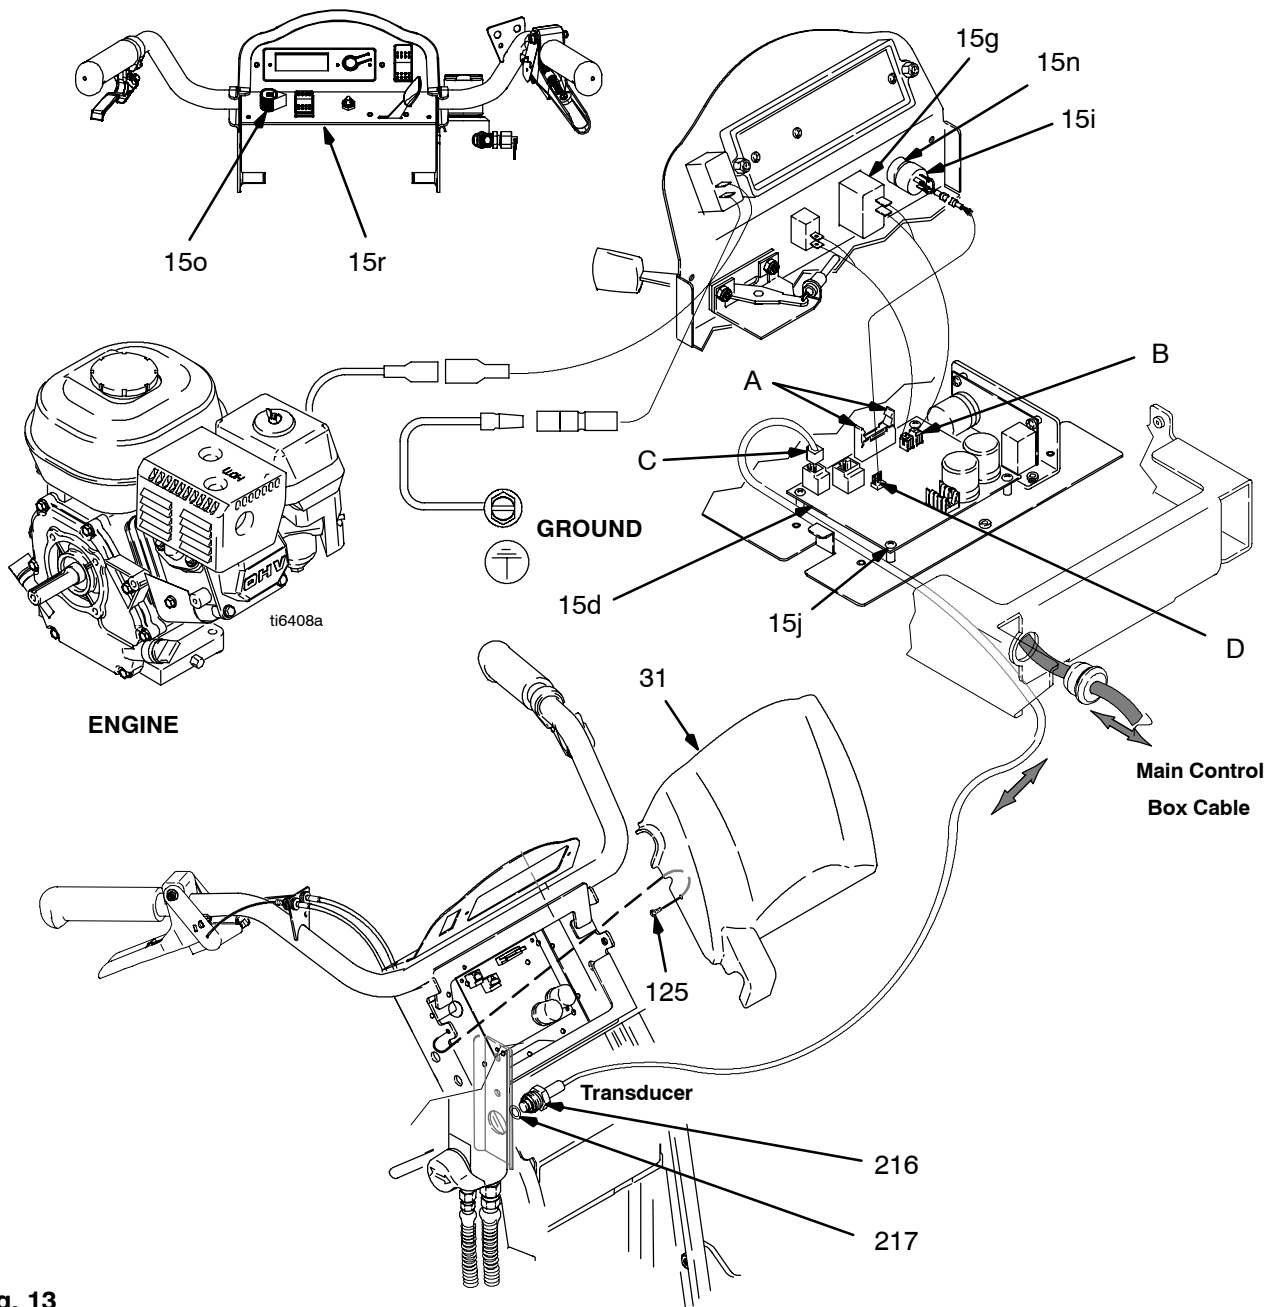

Fig. 13
2. Fig. 13. Remove two screws (125) and cover (31).
3. Pull display connector wings (A) open on PC board and pull display connector out.
4. Disconnect ON/OFF switch connector (B) from PC board.
2. Fig. 13. Remove two screws (125) and control cover (31). Pull display connector wings open on PC board and pull display connector out.
3. Figs. 13 and 21. Note on a paper lead connections to the control board. Disconnect leads from control board (15d).
4. Fig. 13. Remove four screws (15j) from control board (15d).
1. Fig. 13. Install control board (15d) with four screws (15j).
2. Figs. 13 and 21. Refer to note on lead connections to the control board. Connect leads to control board (15d).
3. Fig. 13. Push display connector into PC board close display connector wings on PC board. Install control cover (31) with two screws (125).
2. Fig. 13. Remove two screws (125) and control cover (31).
3. Disconnect transducer lead (C) from control board (15d).
4. Remove pressure control transducer (216) and o-ring (217) from filter manifold (40).
1. Fig. 13. Install o-ring (217) and pressure control transducer (216) in filter manifold (40). Torque to 35-45 ft-lb.
2. Connect transducer lead (C) to control board (15d).
3. Install control cover (31) with two screws (125).
3. Disconnect lead (D) from control board (15d).
2. Fig. 13. Install pressure adjust potentiometer (15i), shaft nut, lockwasher and potentiometer knob (15o).
3. Connect lead (D) to control board (15d).
4. Install control cover (31) with two screws (125).